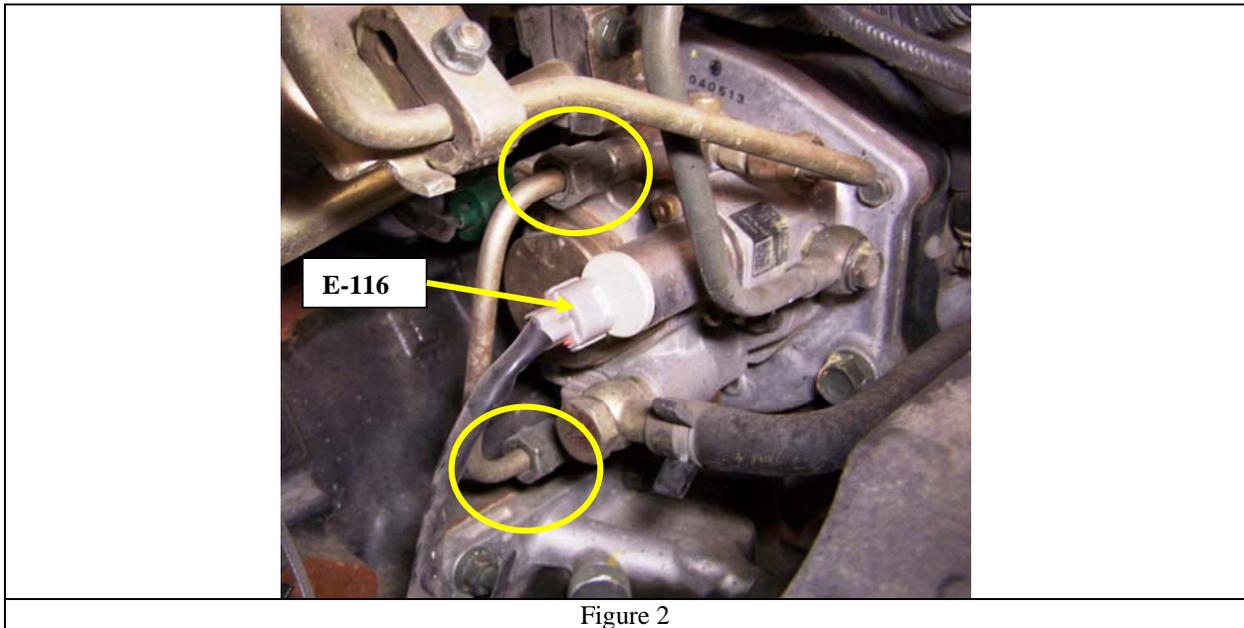

Figure 2
3. Inspect connecting pipe fittings for leaking fuel. See figure 2
7. Disconnect the Fuel Rail Pressure (FRP) Regulator connector E-116. See figure 2.